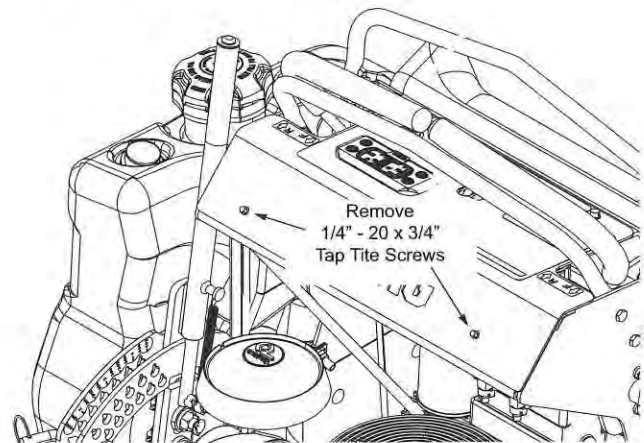

Figure 3-32. Control Panel Hardware Removal
2. Secure the RF control module and guard to the mounting bracket using two 1/4 - 20 x 1" bolts, two 1/4" flat washers, and two 1/4" - 20 elastic stop nuts. See Figure 3-32.
10. Remove and discard the two (2) 1/4-20 x 3/4" tap tite screws from the front of the control panel. See Figure 3-32.